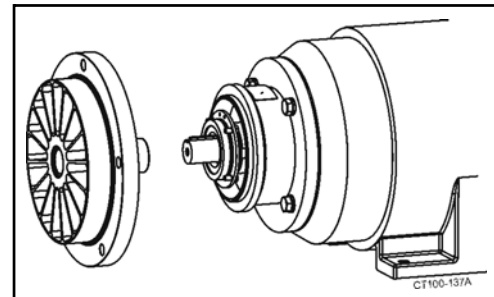

Figure 13 - Remove Impeller, Backplate and Seal Assembly
- Pull impeller, backplate, and seal assembly from motor shaft (Figure 13). Place assembly face down on impeller vanes on a protected surface.